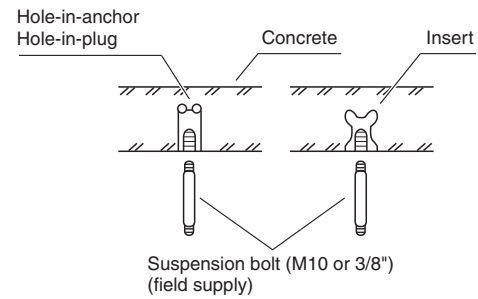

Fig. 3-29
- (1) Fix the suspension bolts securely in the ceiling using the method shown in the diagrams, by attaching them to the ceiling support structure, or by any other method that ensures that the unit will be securely and safely suspended. (Fig. 3-29)
- (2) Follow the diagram to make the holes in the ceiling.